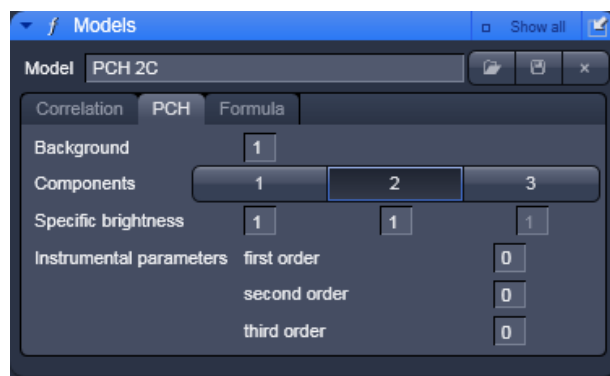

Fig. 264 Model panel, PCH tab
- Click on the **PCH** tab to open the PCH control panel (Fig. 264).